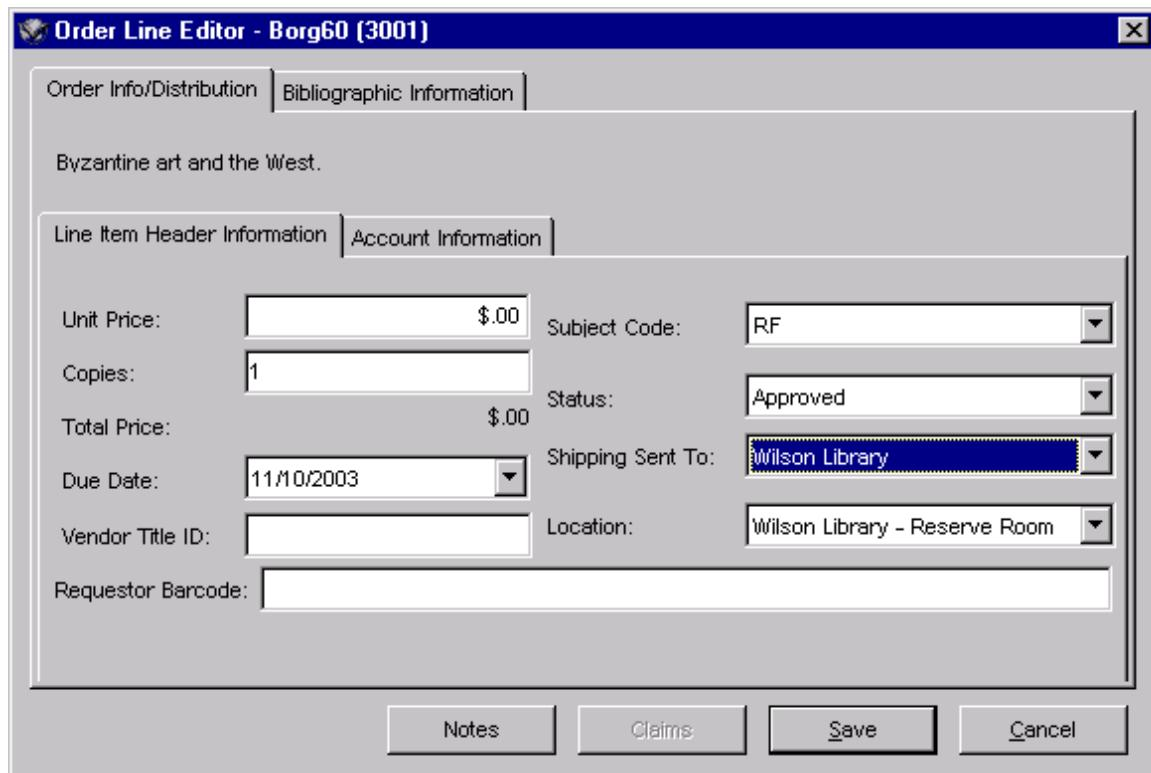

Figure 2-18. Order Line Editor Window
3. The Order Line Editor window appears (Figure 2-18), displaying two main tabs and two or three subtabs, depending on the order type. The title of the item, which is read-only, appears in the header.